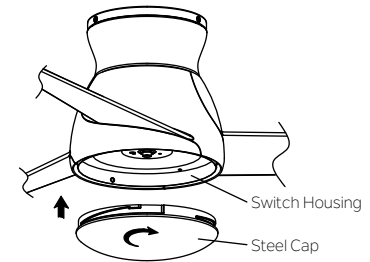

Fig. 18
Step 2. Assemble the steel cap to the switch housing by twisting in a clockwise direction. (Fig.18)